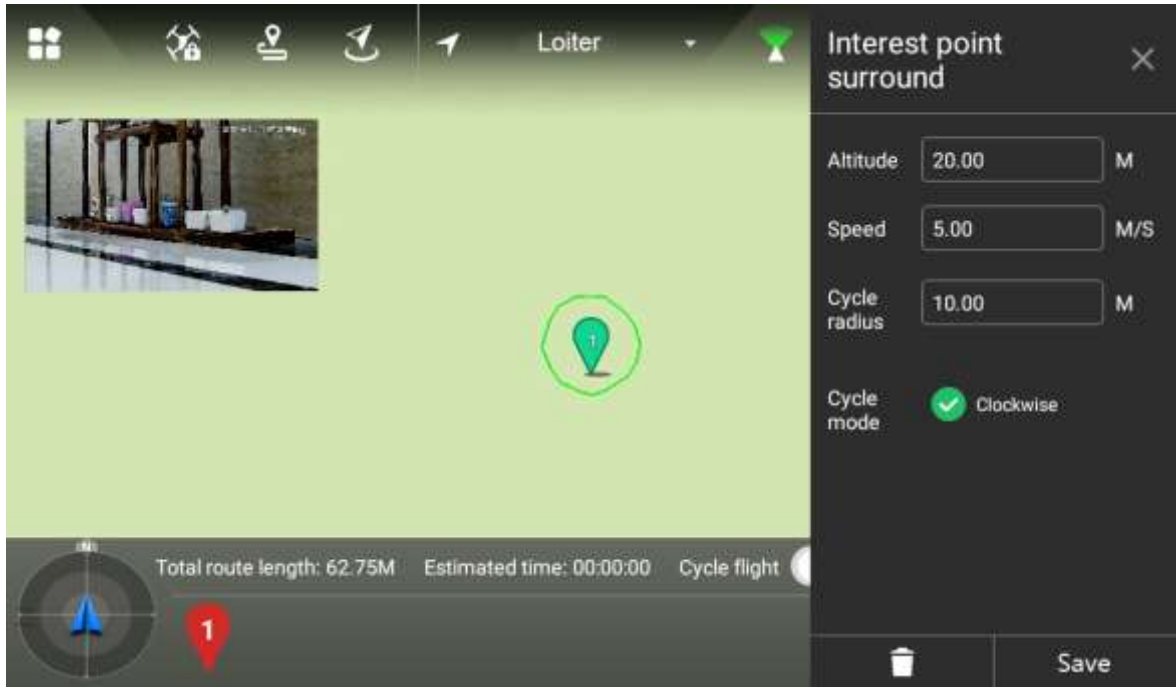

Figure 4-19
Step 3 Click point of interest, the point icon will become red. Settings interface of interest point will be displayed on the right of main interface, as shown in Figure 4-19.